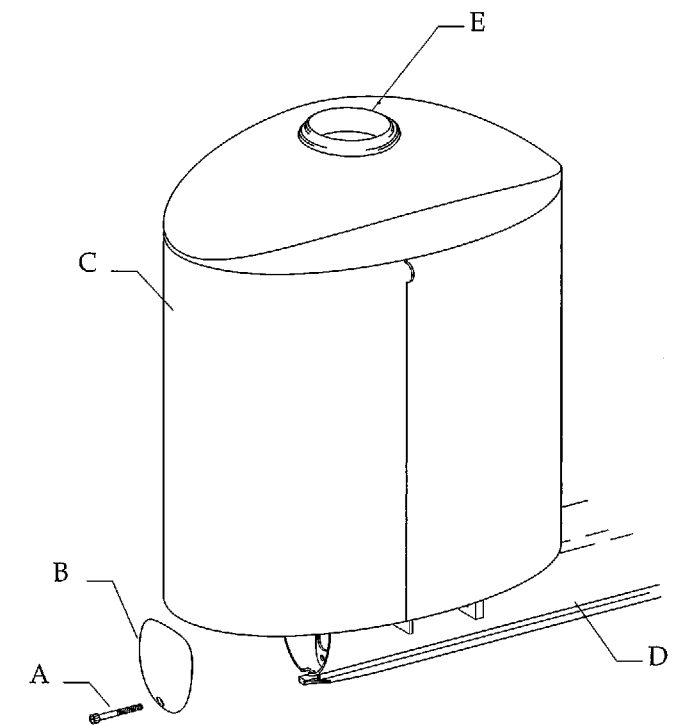

Figure 50. Unscrewing the mounting screw. (A) mounting screw; (B) end cap; (C) support center cover; (D) lower support arm; (E) trim ring
- Unscrew the mounting screw and remove the end cap from the lower support arm (see Figure 50).